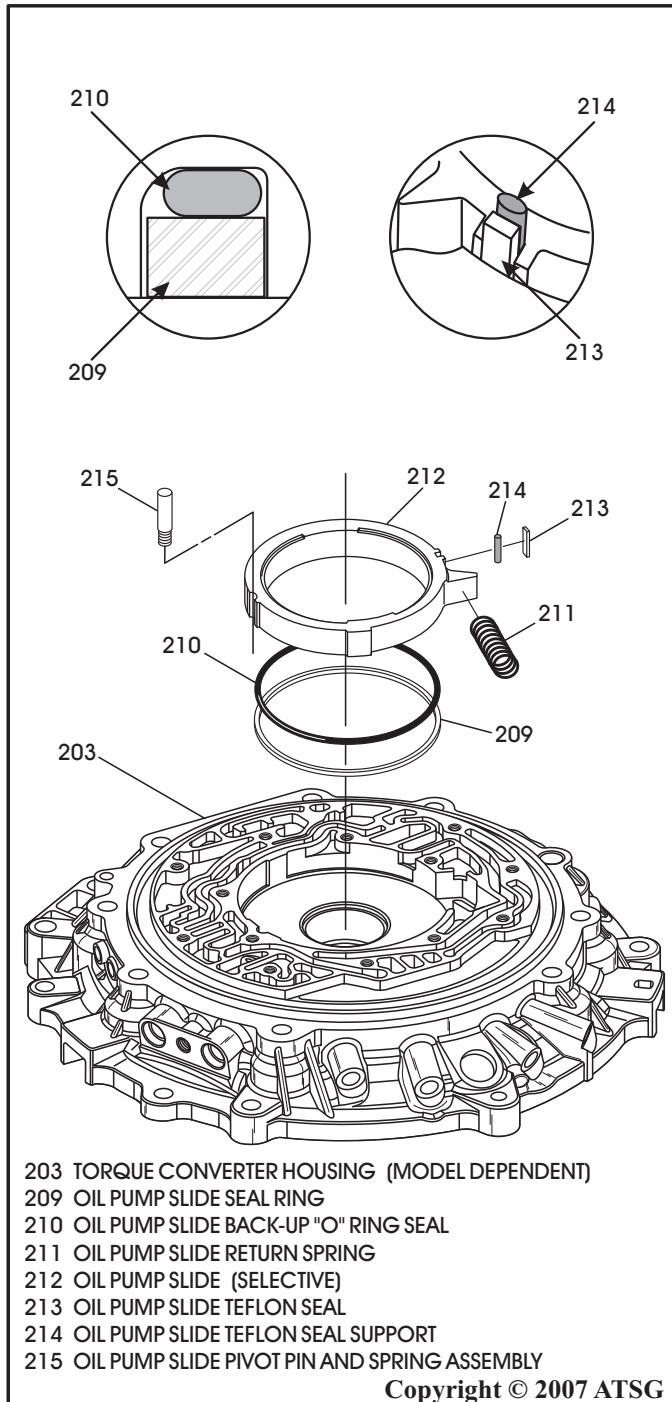

Figure 69
28. Install the pump slide pivot pin and spring, as shown in Figure 69.
29. Install oil pump slide back-up "O" ring (210) and pump slide seal ring (209) into groove in pump slide, as shown in Figure 69, and retain with a small amount of Trans-Jel®.
30. Install the oil pump slide into the pump pocket, as shown in Figure 69, with the seal ring (209) facing down.
31. Install the oil pump slide "Teflon" seal (213) by pulling the slide toward the pump pivot pin and sliding the seal down between the slide seal support (214) and converter housing, as shown in Figure 69.
32. Install the oil pump slide spring, as shown in Figure 69, using a screwdriver or installation tool.